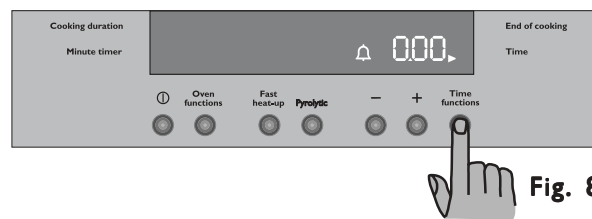

Fig. 8
- 1) Press Time functions button to select the Minute timer function (Fig. 8). The relevant 🔔 symbol will flash and the control panel will display "0.00".
- 4) To switch off the acoustic alarm, press button ①.